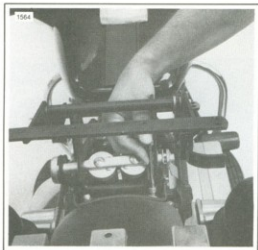

Figure 2-105. Comfort Flex Seat Rear Mounting Screws
- See Figure 2-105. Remove the two socket head screws and washers from the suspension and rear fender. Remove the suspension assembly.
1. See Figure 2-105. Place the suspension assembly on the motorcycle. Fasten it to the rear fender using the original socket head screws.
5. See Figure 2-105. Install the 8 rubber washers as shown.